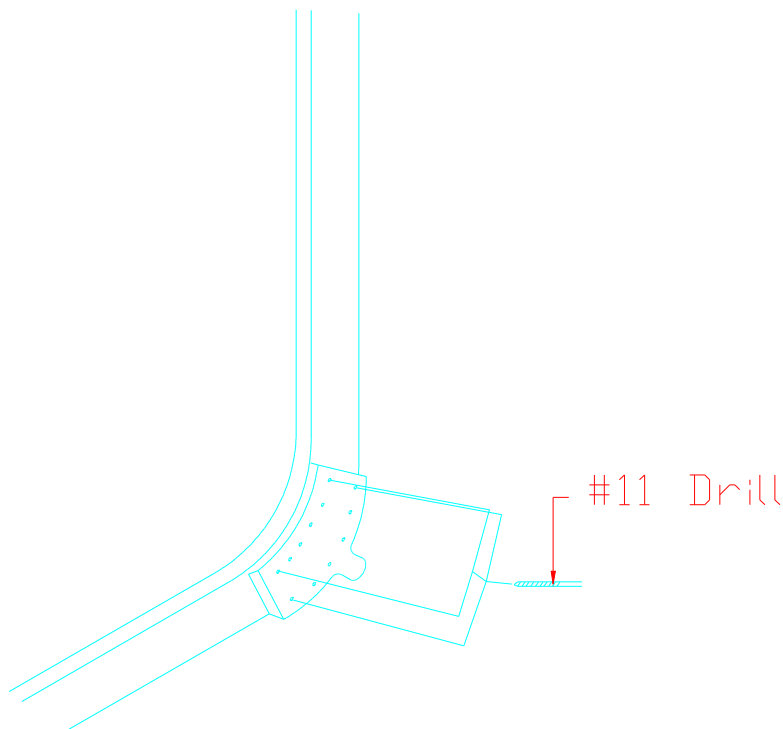

Figure 12.27.2
- 6) Back drill through the bracket into the bulkhead using a #11 bit. Drill only the four end holes as in figure 12.27.2.